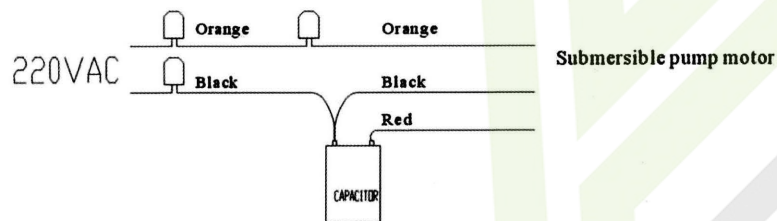

Figure 10: Capacitor wiring schematic
15. Using supplied wire nuts, attach like colored pump pigtail wires to like colored electrical connector wires as shown in Figure 10.